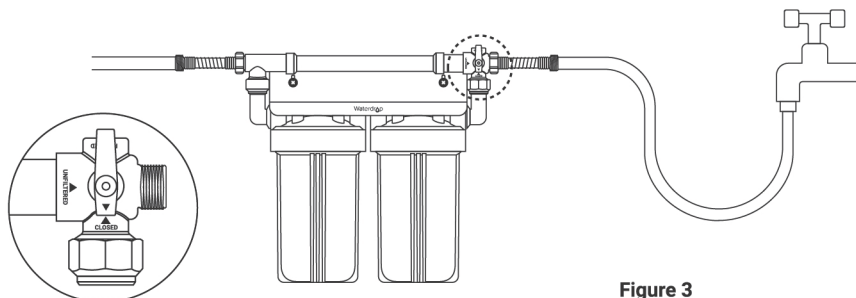

Figure 3
4. After the pipeline installation is completed, rotate the ball valve to the closed position, first open the faucet at home, and then slowly rotate the ball valve to the original water and filtered water positions to check whether there is any water leakage or slow seepage at the joints. After checking, it can be used normally. (Figure 3)